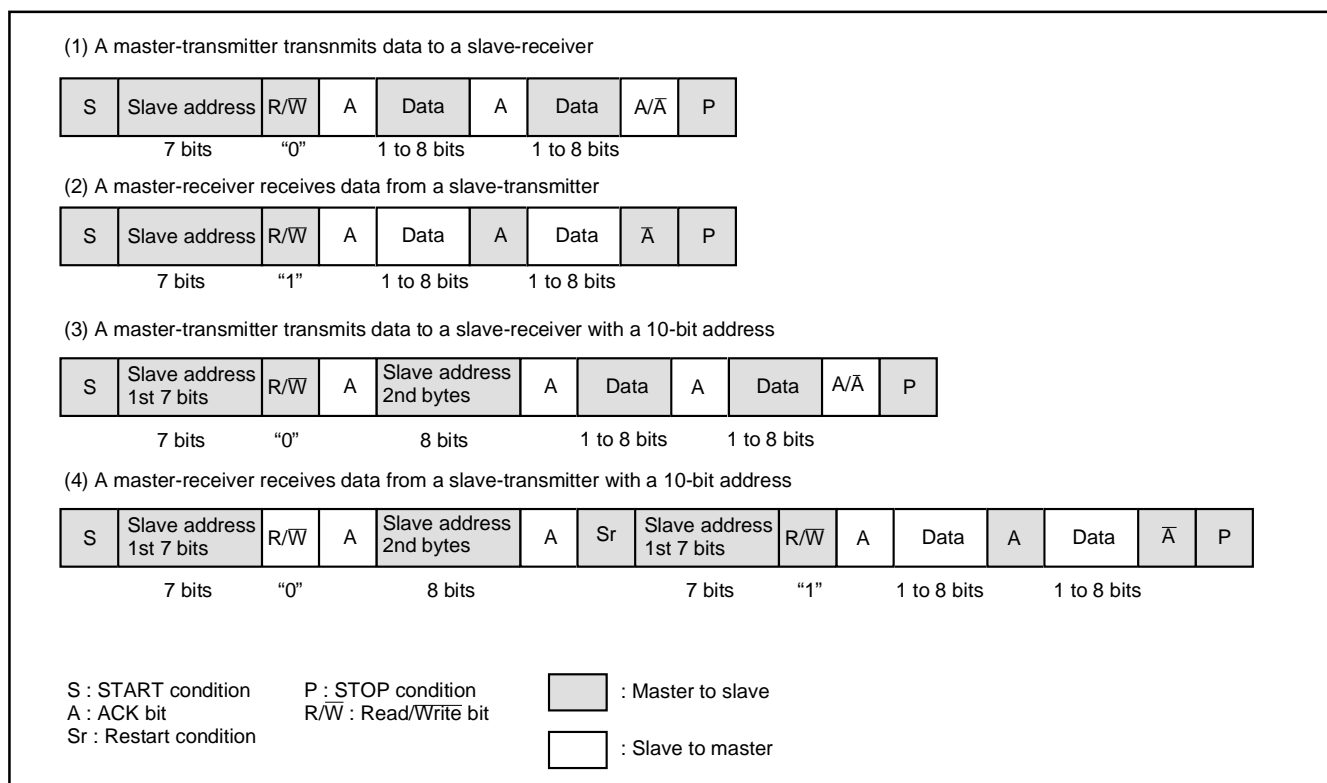

Fig. 39 Address data communication format
(1) 7-bit addressing format
To adapt the 7-bit addressing format, set the 10BIT SAD bit of the I²C control register (address 002E16) to "0". The first 7-bit address data transmitted from the master is compared with the high-order 7-bit slave address stored in the I²C address register (address 002C16). At the time of this comparison, address comparison of the RWB bit of the I²C address register (address 002C16) is not performed. For the data transmission format when the 7-bit addressing format is selected, refer to Figure 39, (1) and (2).
(2) 10-bit addressing format
When the first-byte address data agree with the slave address, the AAS bit of the I²C status register (address 002D16) is set to "1". After the second-byte address data is stored into the I²C data shift register (address 002B16), perform an address comparison between the second-byte data and the slave address by software. When the address data of the 2 bytes agree with the slave address, set the RWB bit of the I²C address register (address 002C16) to "1" by software. This processing can make the 7-bit slave address and R/W data agree, which are received after a RESTART condition is detected, with the value of the I²C address register (address 002C16). For the data transmission format when the 10-bit addressing format is selected, refer to Figure 39, (3) and (4).